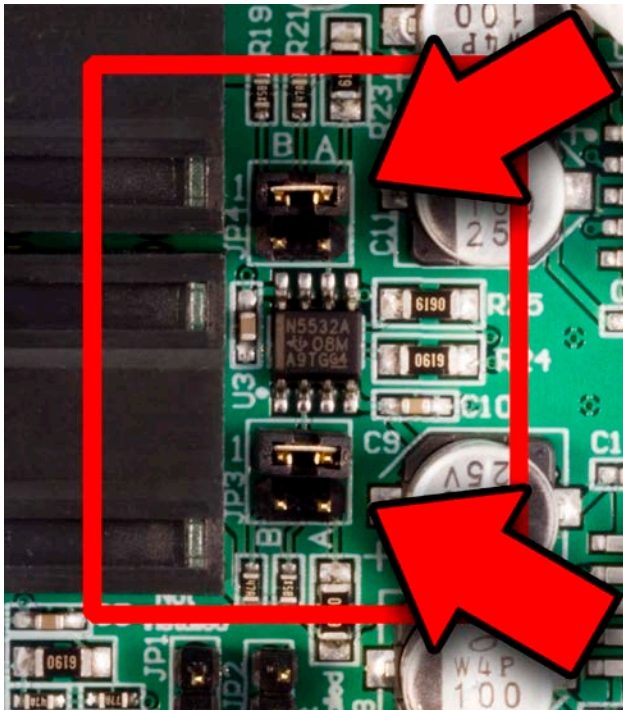

Figure 6 - HPA2™ Gain is - 20 dB
- **Gain = - 20 dB** - see **Figure 6**